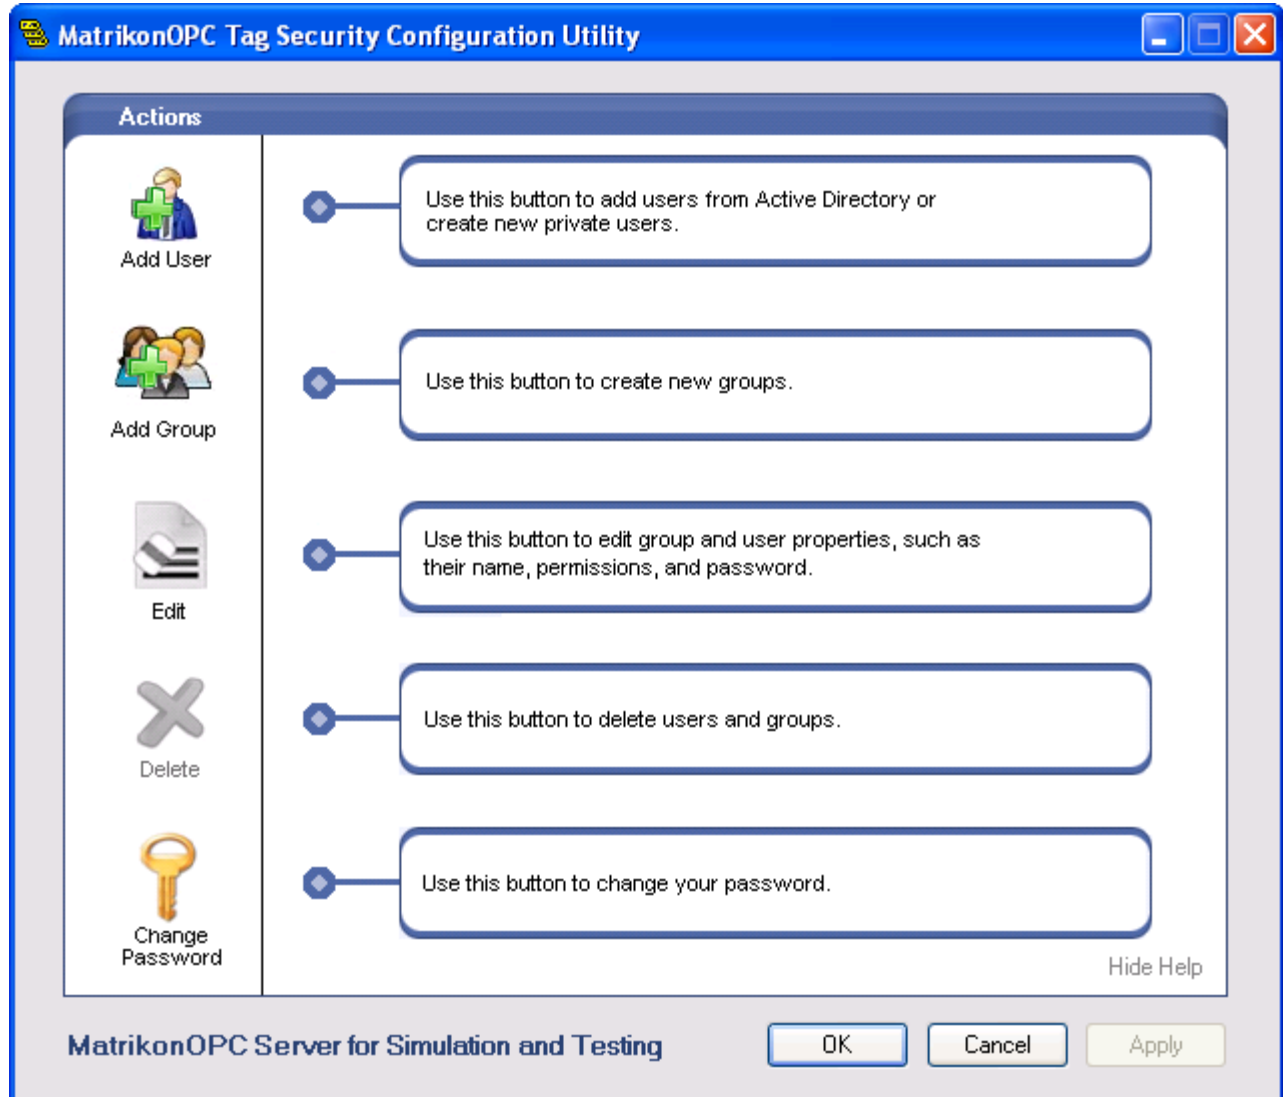

Figure 57 - MatrikonOPC Tag Security Configuration Utility Main Screen
4. The **MatrikonOPC Tag Security Configuration Utility** screen (Figure 57) appears.
The **MatrikonOPC Tag Security Configuration Utility** screen displays the name of the OPC server that is being configured for tag security. In Figure 57 above, the **Utility** screen shows that the **MatrikonOPC Server for Simulation and Testing** tag security is being configured.